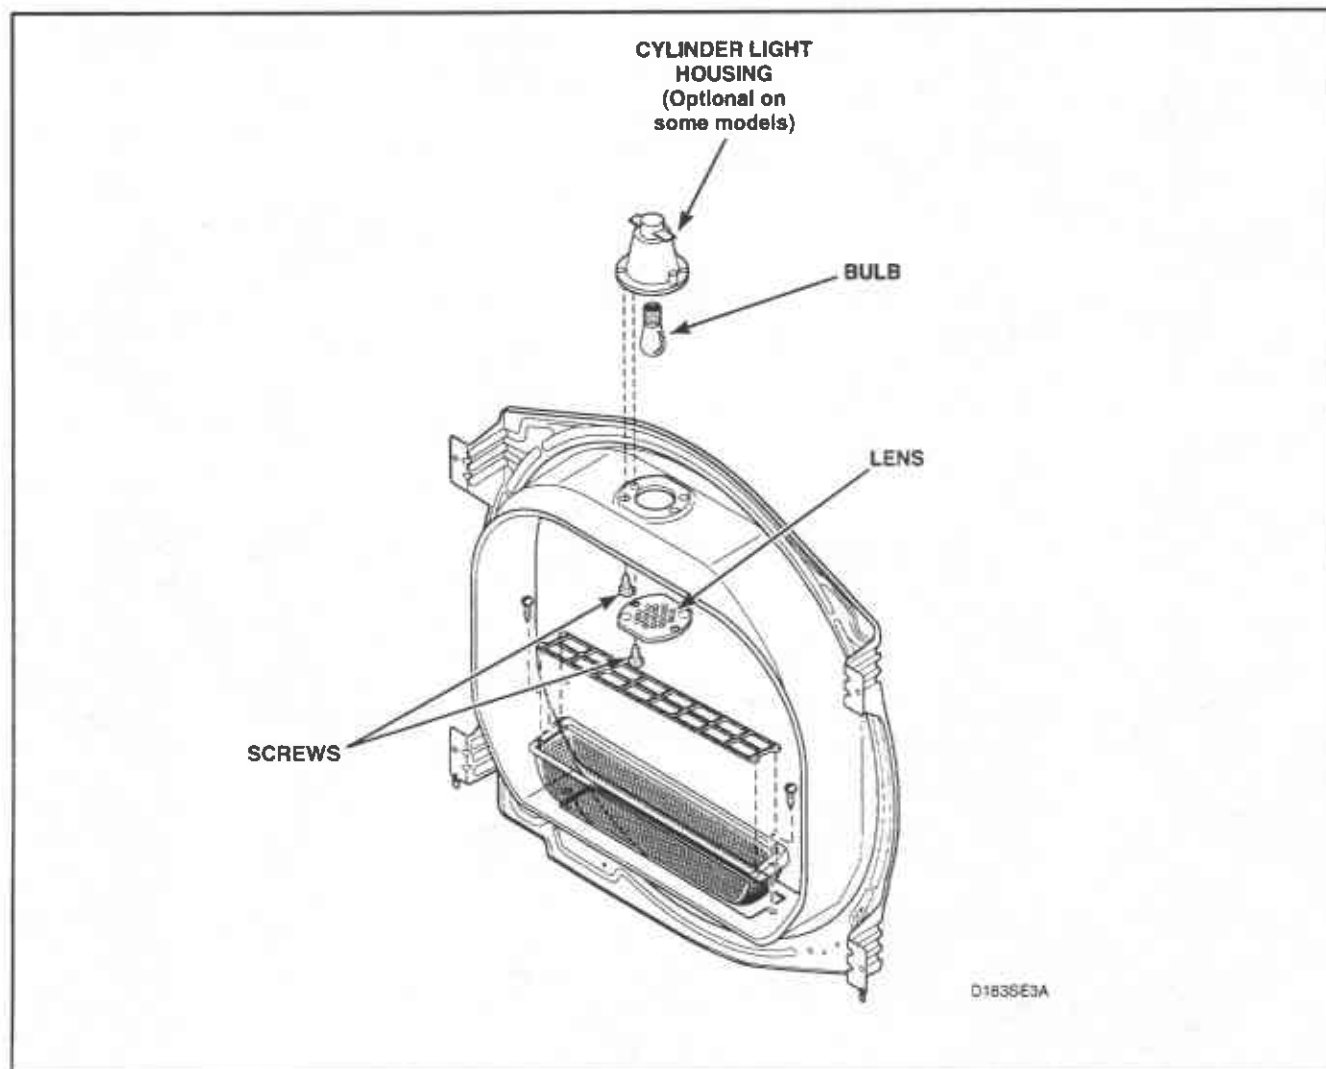

Figure 36
32. CYLINDER LIGHT (Figure 36)
- Open loading door and remove screws holding the lens to the front bulkhead, *Figure 36*.
33. CYLINDER LIGHT RECEPTACLE (Figure 36)
- Remove two screws holding receptacle to front bulkhead, *Figure 36*.